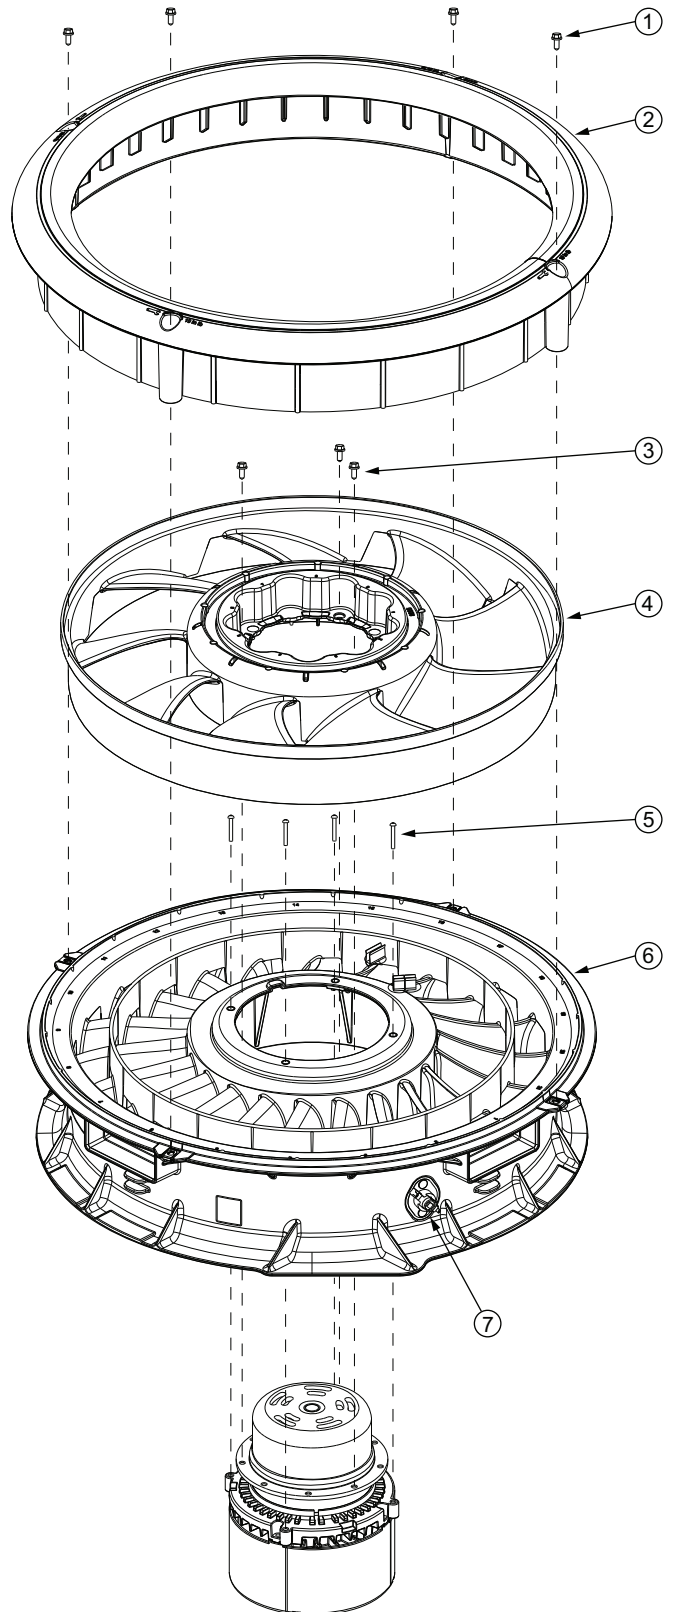
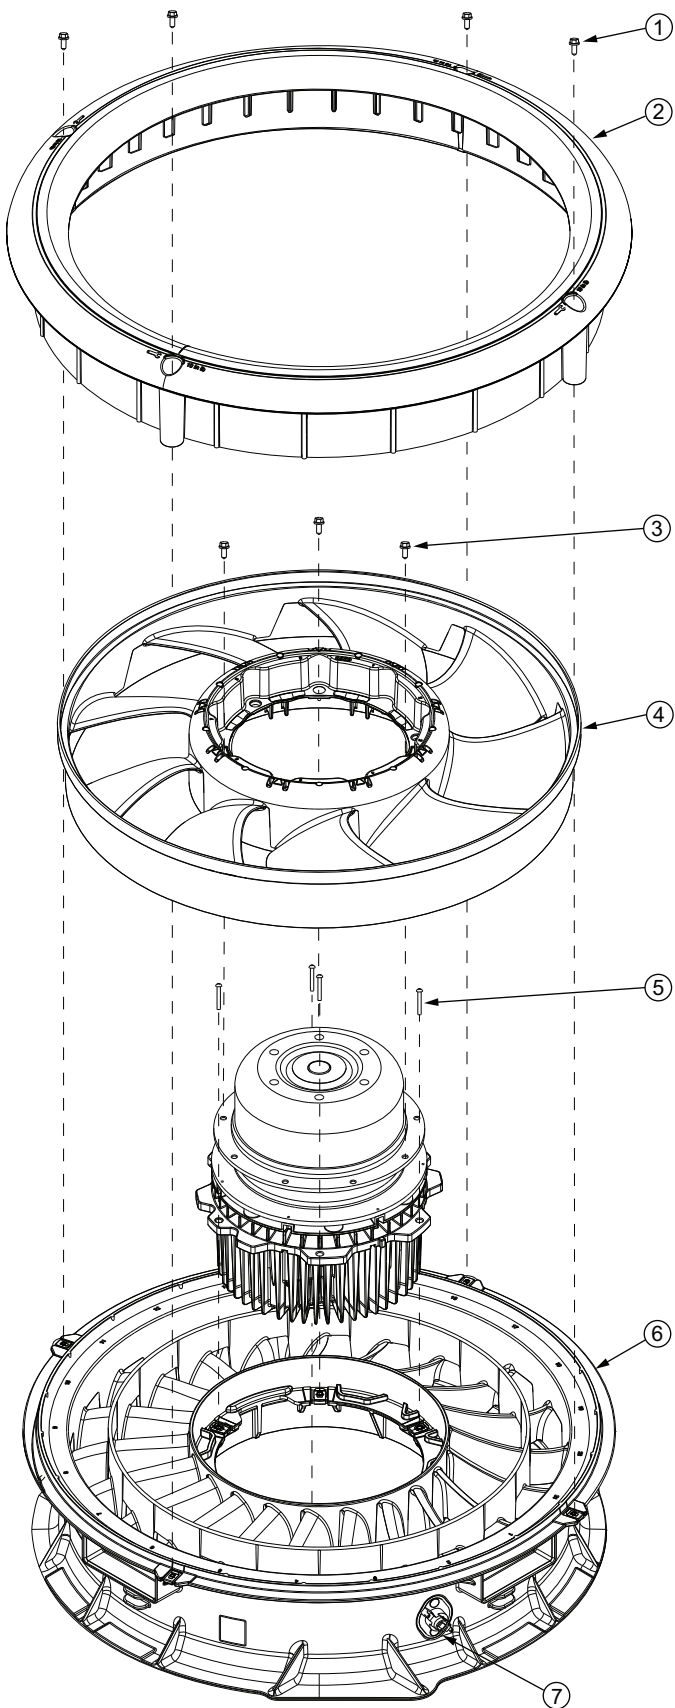

Fig. 28 — Fan Assembly for Units with 2.4 Hp Motor
Fig. 29 — Fan Assembly for Units with 3 Hp Motor
See Fig. 28 for 2.4 Hp motor units; see Fig. 29 for 3 Hp motor units.
1. See Fig. 28 for 2.4 Hp motor units; see Fig. 29 for 3 Hp motor units. Place motor on flat surface.